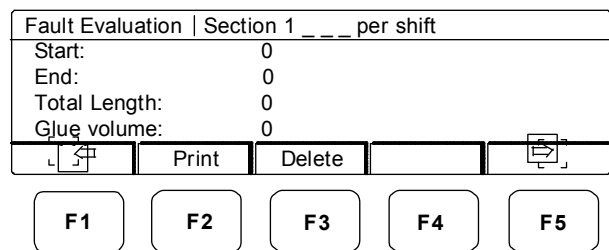

Figure 12-12. Details Screen
2. To see details about the faults, press the  button. The “details” screen displays (Figure 12-12).